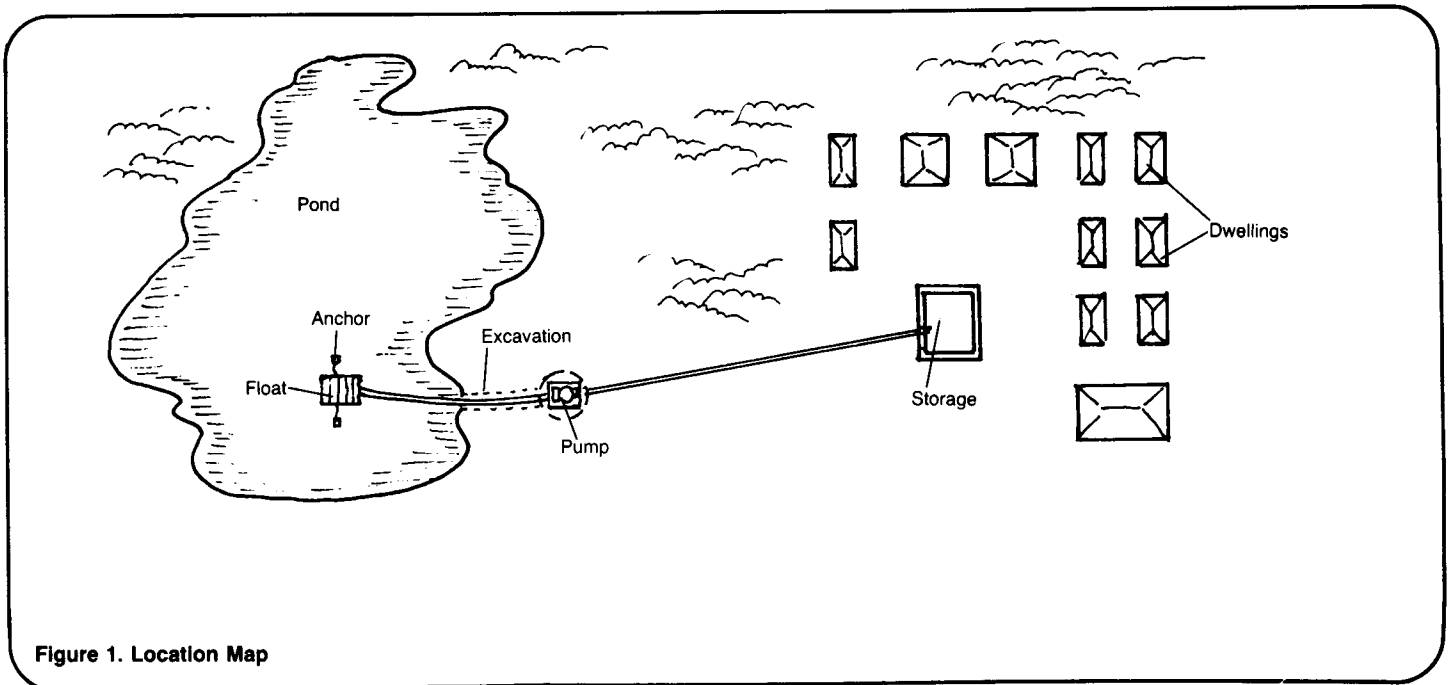

Figure 1. Location Map
1. A map of the body of water marked with the location of the intakes, distances and construction areas as shown in Figure 1.